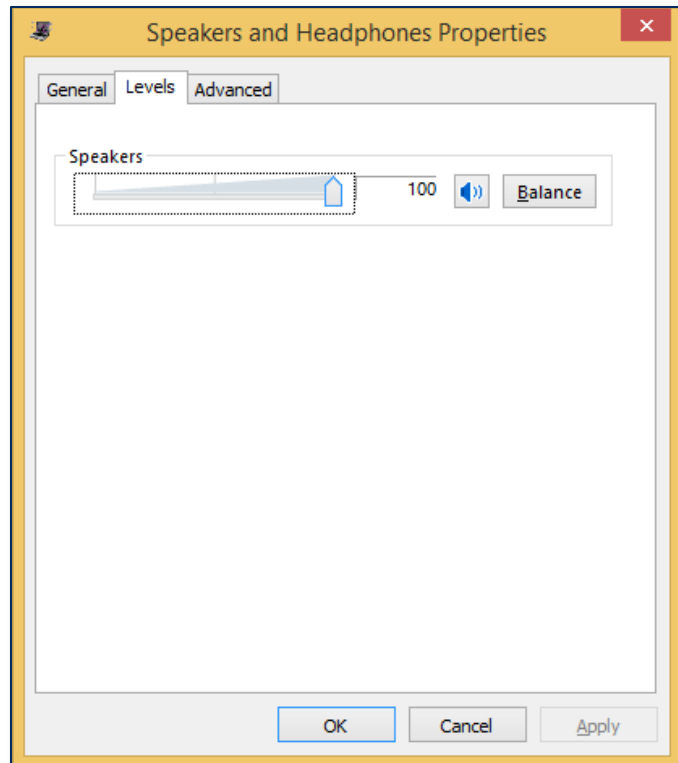

Figure 2-1 Device Volume Level Set to 100
- 8) Set the volume at maximum. See Figure 2-1 for an example.